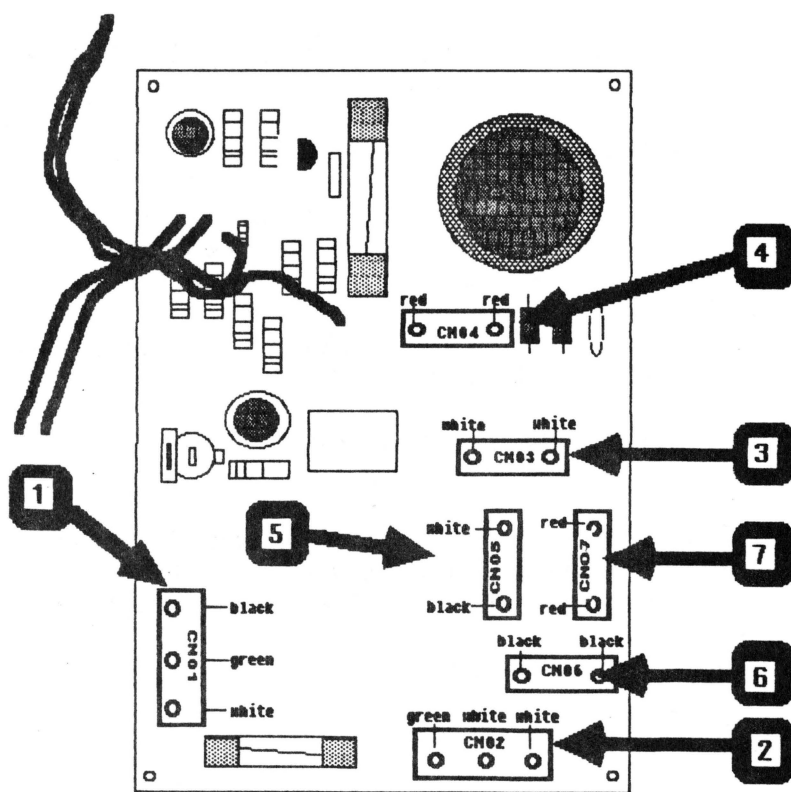

FIGURE 11
8. Tilt the plate slightly forward so that you can see where the connectors are on the component side (inside) of the P/S board (Figure 11).
- a) CN01 (black, green, and white) -- Figure 11, #1)
- b) CN02 (green, white, and white) -- Figure 11, #2)
- c) CN03 (white and white) -- Figure 11, #3)
- d) CN04 (red and red) -- Figure 11, #4)
- e) CN07 (red and red) -- Figure 11, #7)
- f) CN05 (white and black) -- Figure 11, #5)
- g) CN06 (black and black) -- Figure 11, #6)
1. Connect CN01 through CN07. **MAKE SURE THAT WIRE COLORS MATCH THE COLORS LISTED NEXT TO THE CONNECTORS AS SHOWN IN FIGURE 11** (see Figure 11, #1 - #7).
6. Disconnect CN04 and CN05 (Figure 11) from the component side of the power supply board.